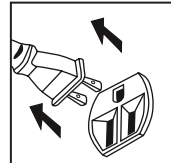

Fig. 1
1. Verify the power cable is not plugged in the power supply (Fig. 1)